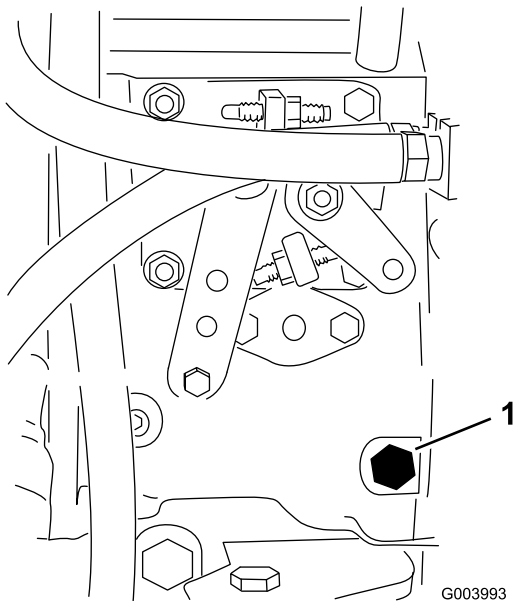

Figure 38
3. Open the air bleed screw on the fuel injection pump (Figure 38) with a 12 mm wrench.